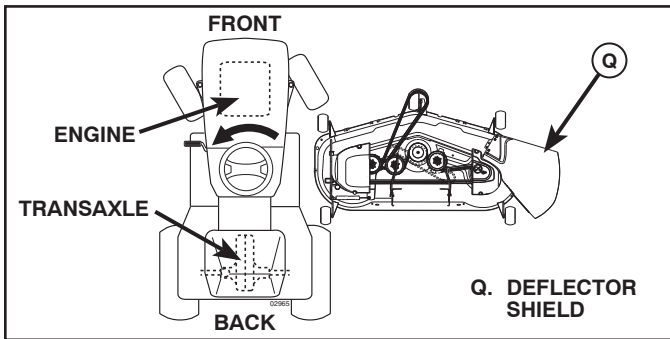

Fig. 25
3. TURN STEERING WHEEL LEFT AND POSITION MOWER (See Fig. 25)
- Turn steering wheel to the left as far as it will go and position mower on right side of tractor with deflector shield (Q) to the right.